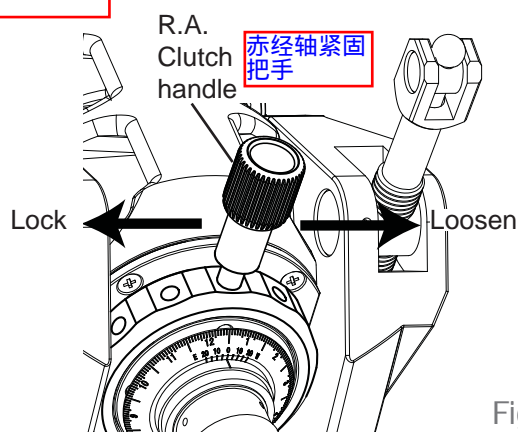

Fig. 1.4b
2. Loosen the R.A. Clutch with the handle, and rotate the R.A. Axis until the counterweight rod is pointing towards the ground. (Fig. 1.4b) 2. 通过把手松开赤经轴紧固装置，转动赤经轴（R.A. Axis）至配重杆指向地面。（详见图示 1.4b）